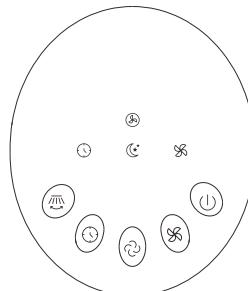

Fig. 6
4.2 Buttons on fan body/panel indication (Fig. 6)